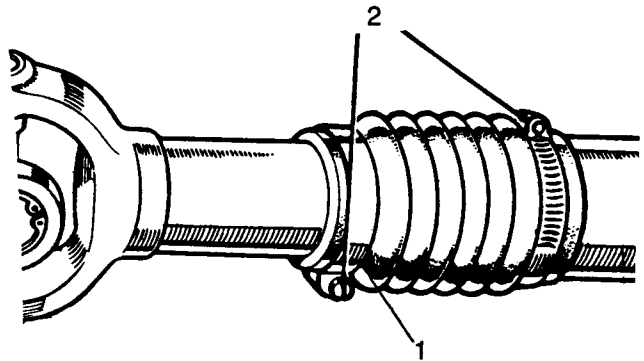

Fig H4.14
- (14) **Front propeller shaft:** Refer to Fig H4.14. Place the rubber boot (1) in position and secure the hose clips (2) 180° to each other to maintain balance.
- (15) **Both propeller shafts:** Fit the grease nipple to the universal joints and lubricate.